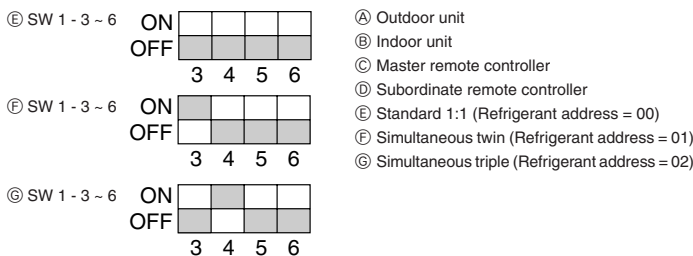

Fig. 9-1
- ① Before collecting the refrigerant, first make sure that all of the SW5 DIP switches for function changes on the control board of the outdoor unit are set to OFF. If all of the SW5 switches are not set to OFF, record the settings and then set all of the switches to OFF. Start collecting the refrigerant. After moving the unit to a new location and completing the test run, set the SW5 switches to the previously recorded settings.
- ② Supply power (circuit breaker).
- ③ After the gas stop valve is closed, set the SWP switch on the control board of the outdoor unit to ON. The compressor (outdoor unit) and ventilators (indoor and outdoor units) start operating and refrigerant collecting operation begins. LED1 and LED2 on the control board of the outdoor unit are lit.
- ④ Because the unit automatically stops in about two to three minutes after the refrigerant collecting operation (LED1 and LED2 are lit), be sure to quickly close the gas stop valve. When LED1 and LED2 are lit and the outdoor unit is stopped, open the liquid stop valve completely, and then repeat step ③ after three minutes have passed.
- ⑤ Turn off the power supply (circuit breaker).
9. System control (Fig. 9-1)